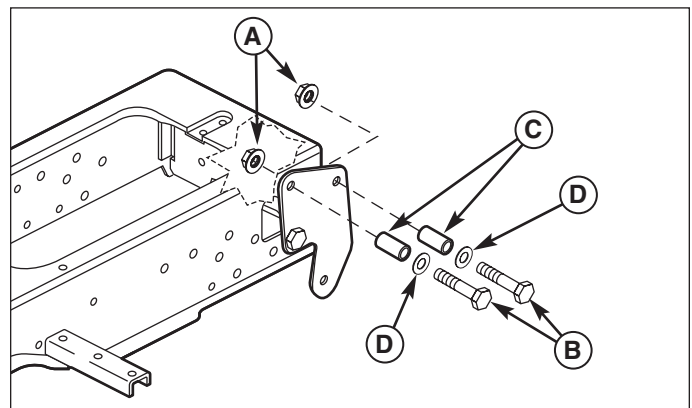

Figure 2. Install Rear Spacers
2. Install the rear spacers (C, Figure 2). Secure with two 1/2-13 x 2-1/2 cap screws (E), washers (D), spacers (C), and 1/2-13 nylock nuts (A) per side.